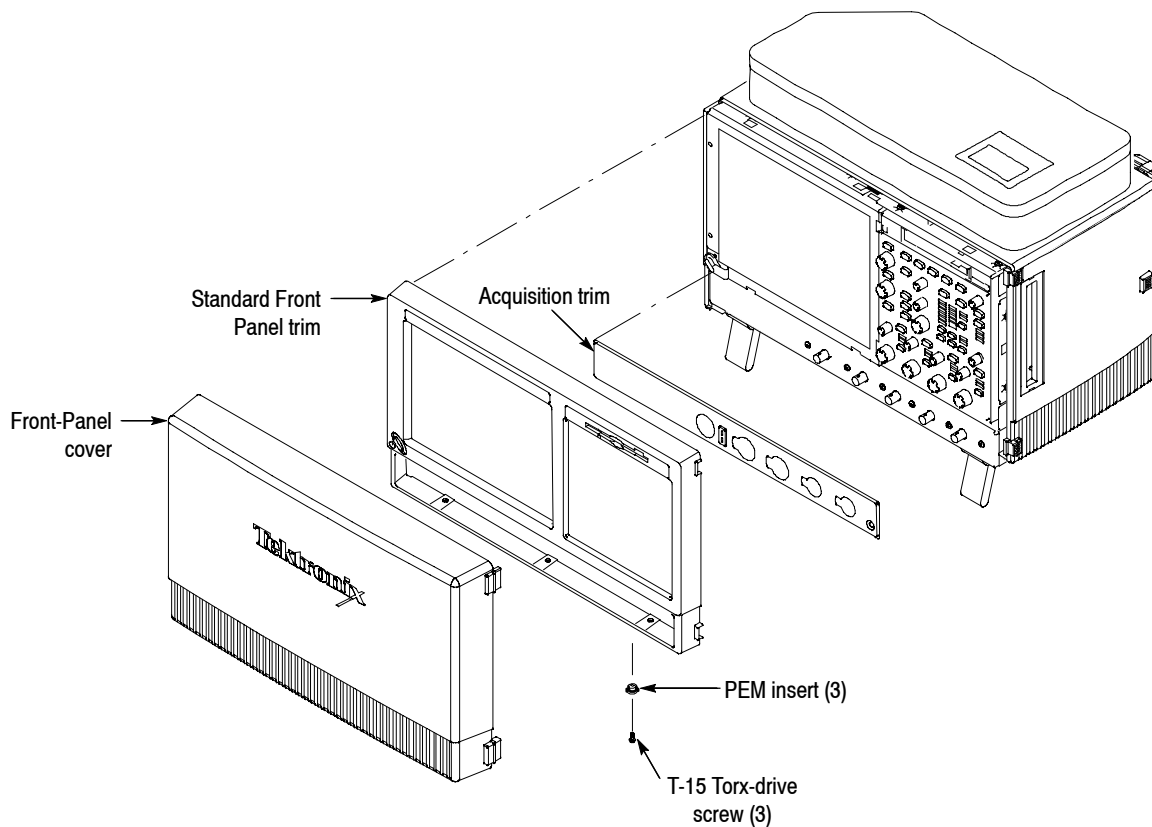

Figure 2: Trim removal
- b. Remove the three T-15 Torx-drive screws that secure the Front-Panel trim to the oscilloscope. See Figure 2 on page 5.